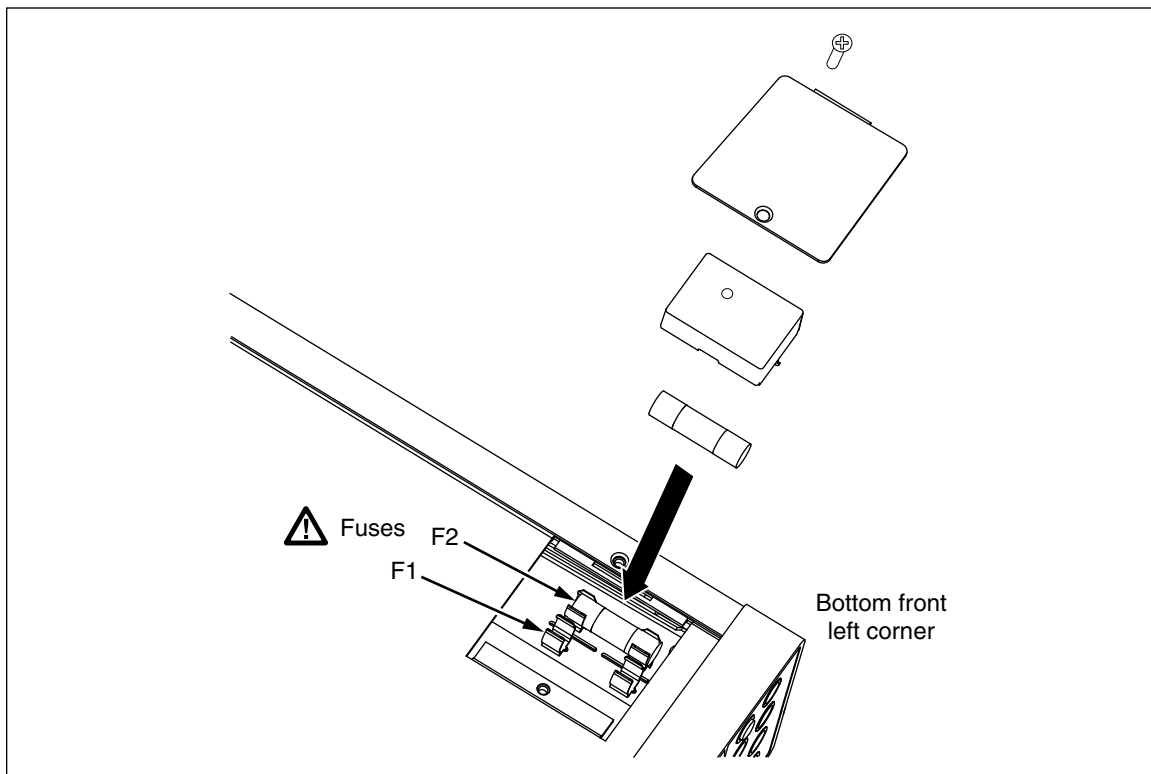

Figure 2-2. Replacing the Current-Input Fuses
3. Remove the retaining screw on the fuse access door located on the bottom of the Meter. See Figure 2-2.